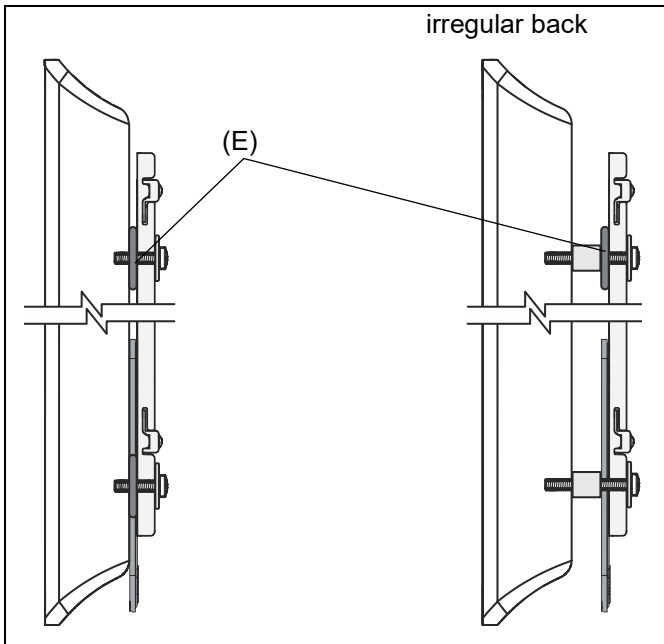

Figure 7
- For displays with a rounded/irregular/obstructed back, longer screws (R, S, T, U or V) and TV spacers (Q) must be used. (See Figure 7)
IMPORTANT ! : To offset the shift in height of your mounting system due to the soundbar brackets (A), mount spacers (E) must be used in the top hole locations. (See Figure 7)